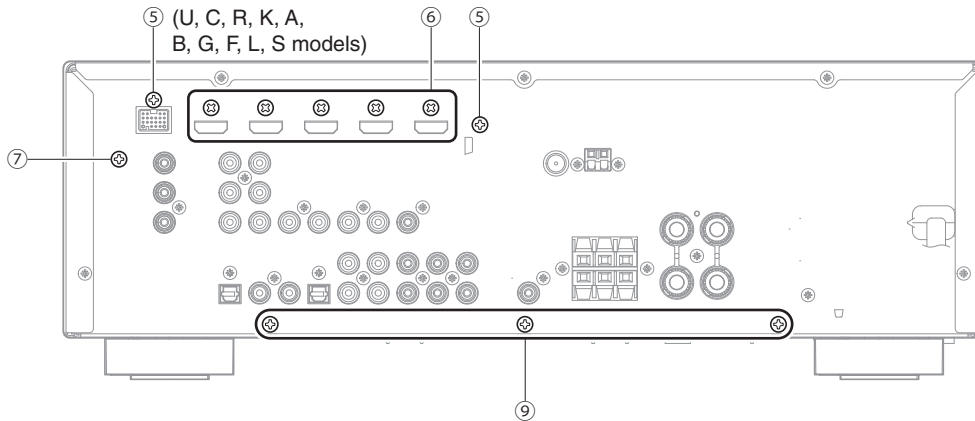

Fig. 3
- c. Remove 2 screws (U, C, R, K, A, B, G, F, L, S models)/screw (T model) (5) and 5 screws (6). (Fig. 3)
- b. Remove screw (7) and screw (8). (Fig. 3)
- Remove 3 screws (9). (Fig. 3)